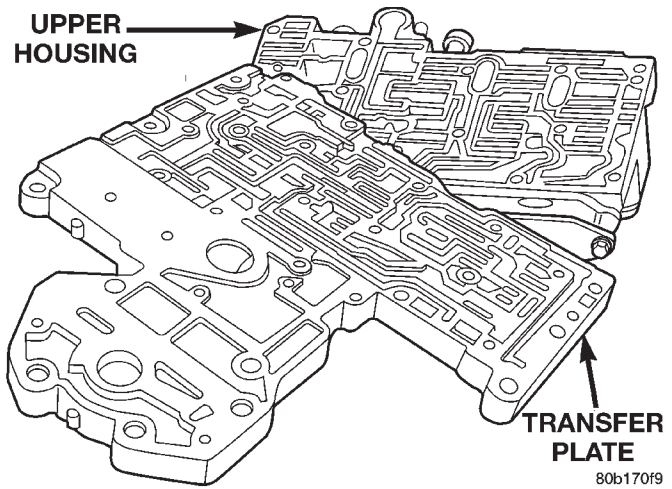
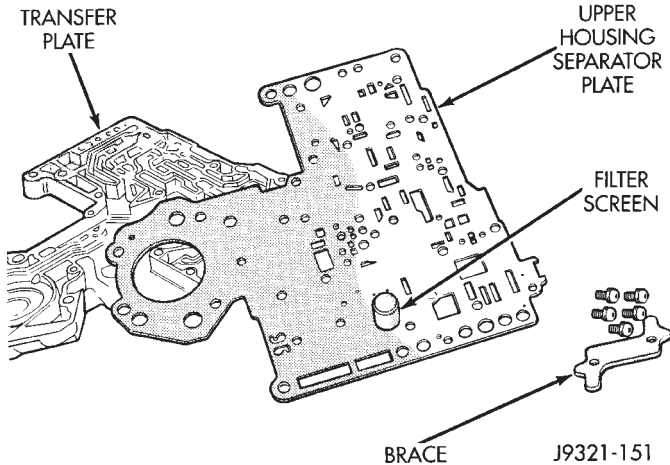

Fig. 69 Transfer Plate
Fig. 70 Upper Housing Separator Plate
(32) Remove transfer plate from upper housing (Fig. 69).
(33) Turn transfer plate over so upper housing separator plate is facing upward.
(34) Remove upper housing separator plate from transfer plate (Fig. 70). Note position of filter in separator plate for assembly reference.